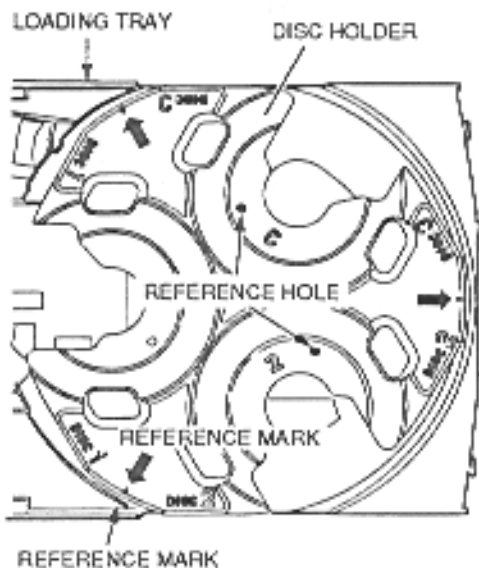

Fig. 3-11
- When attaching the DISC HOLDER on the LOADING TRAY, make sure to place the DISC HOLDER so that any one of the three reference marks aligns with the reference mark on the LOADING TRAY (any two reference holes on the DISC HOLDER align with the corresponding reference holes on the LOADING TRAY accordingly). (Refer to Fig. 3-11)